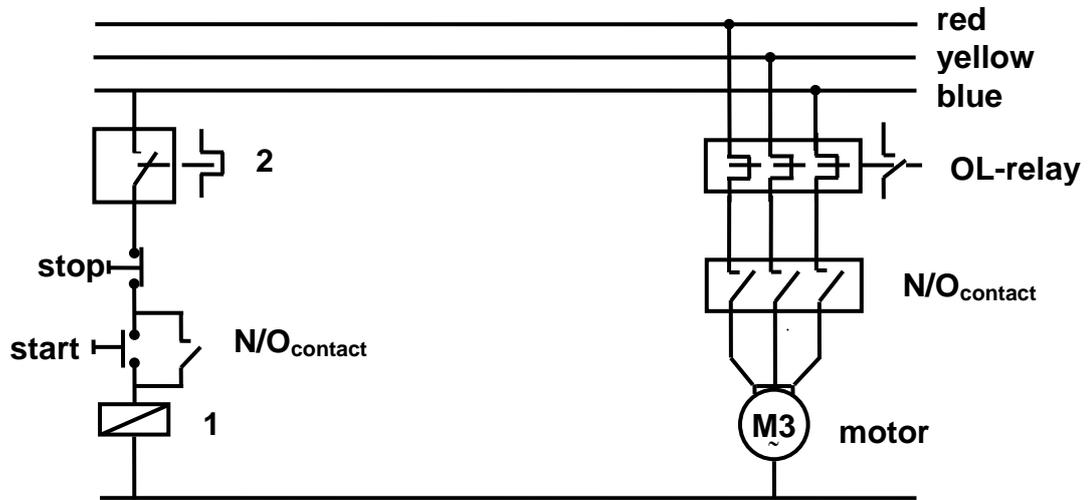

FIGURE 10.1: DIRECT-ON-LINE-STARTER
10.9 The circuit diagram shown in FIGURE 10.1 represents the control circuit and the power circuit of a direct-on-line-starter.